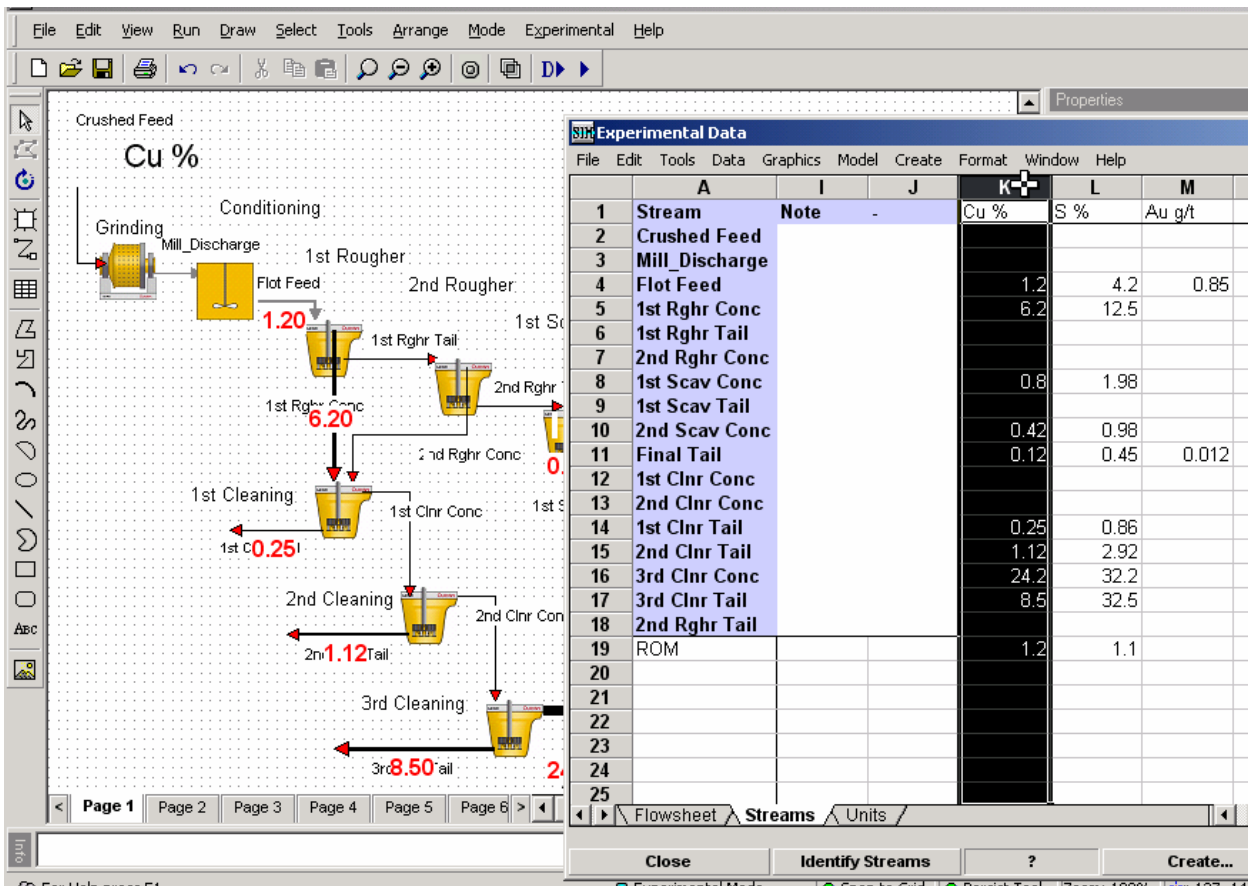

Figure 25. To visualize, select the whole column by clicking the column header.
- To visualize a variable on the flowsheet with a Sankey diagram: 1) select the variable in the "Analyses" window. Then, select the whole column (Figure 25)